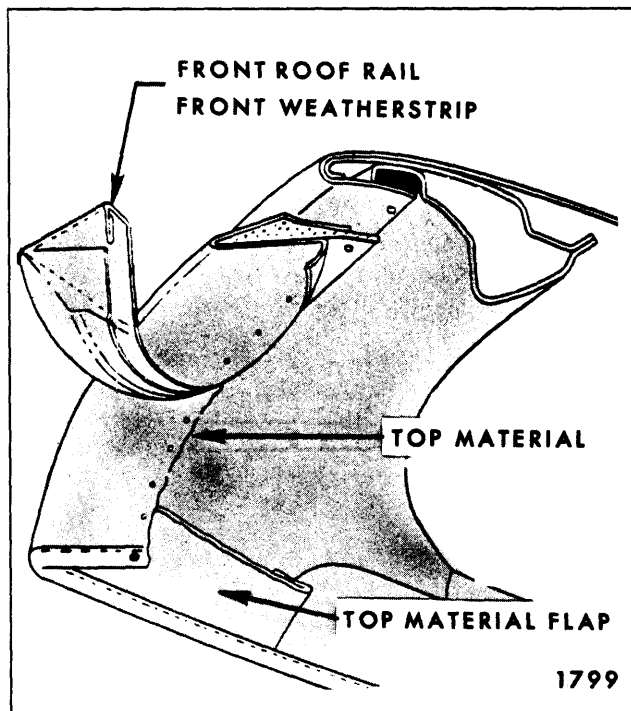

Fig. 13-17—Top Cover at Front Roof Rail
4. Detach folding top material from front roof rail (Fig. 13-17).